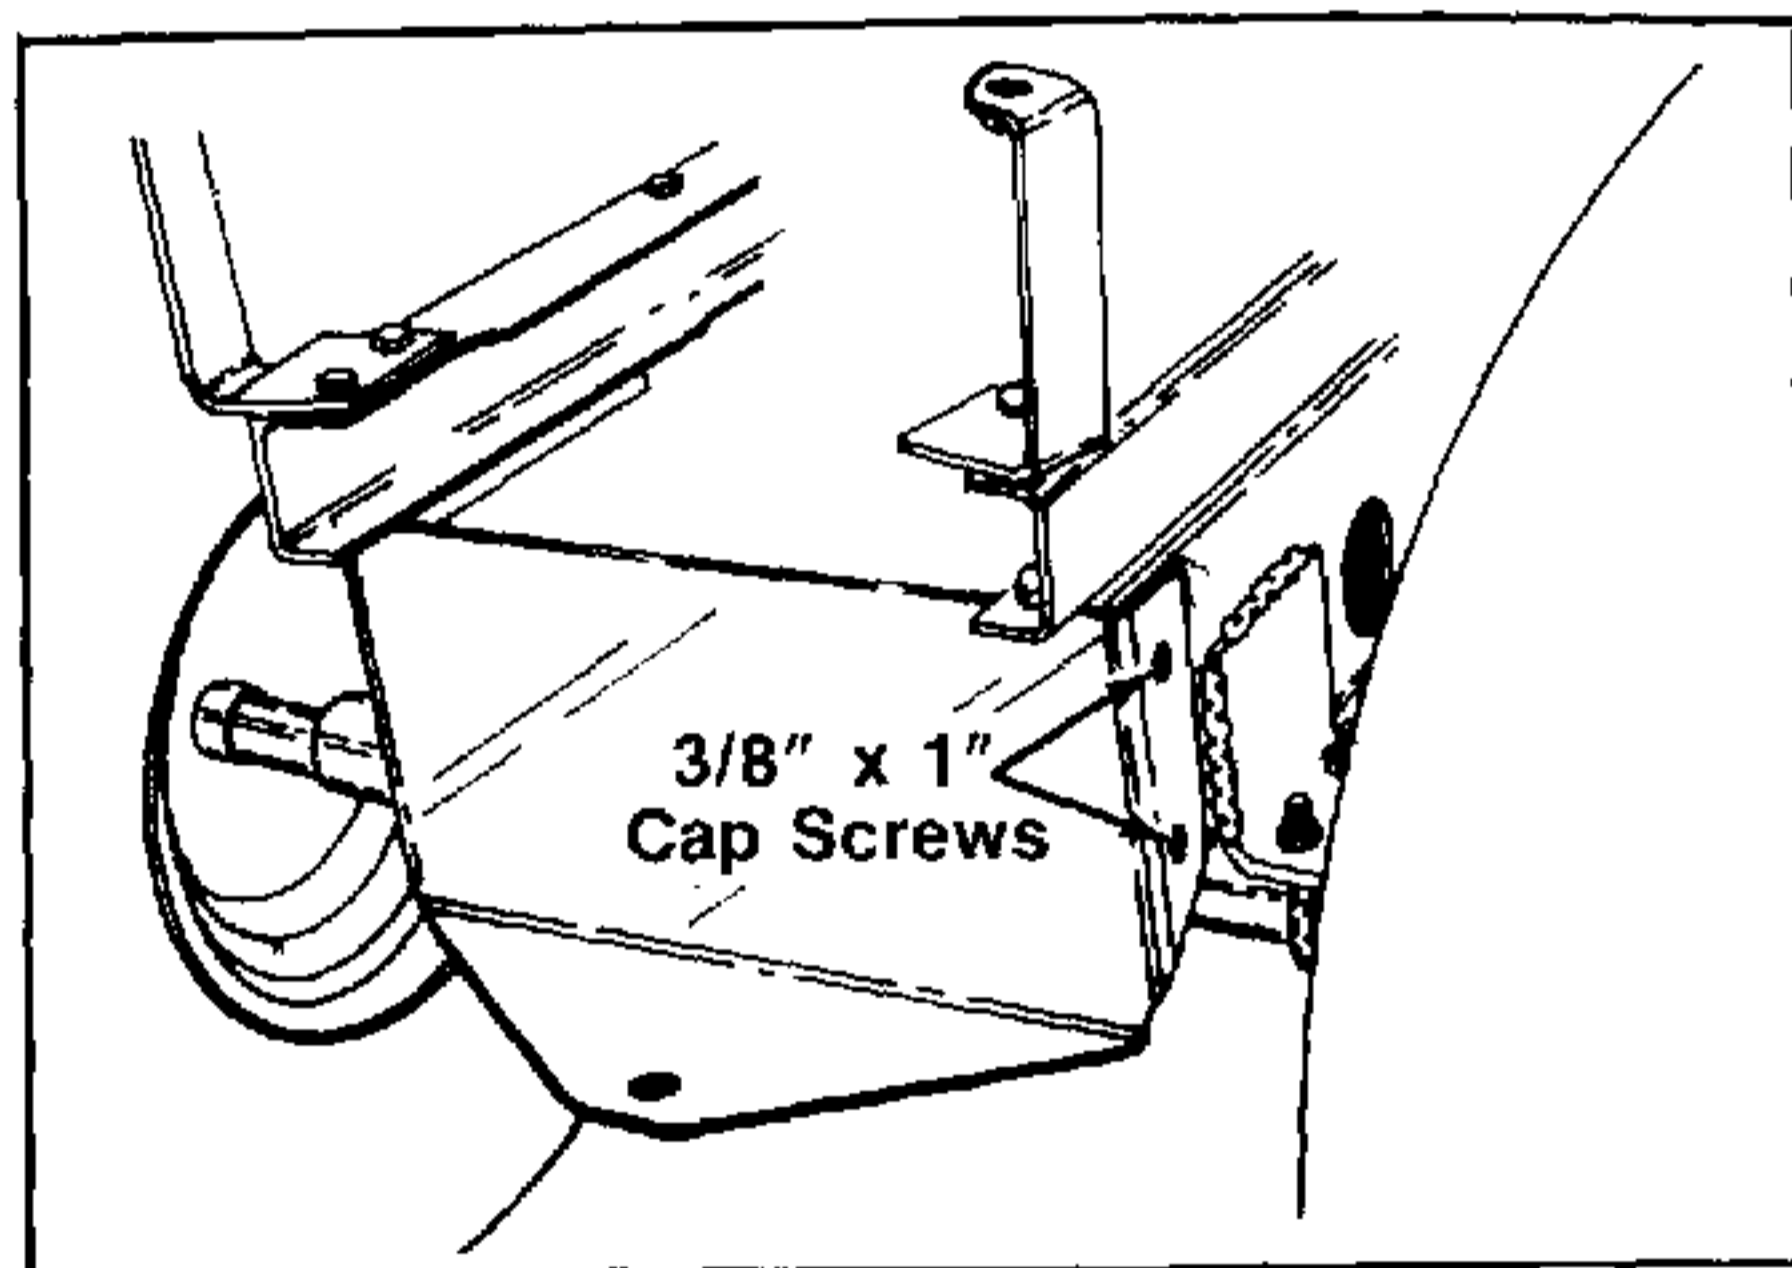

FIGURE 8.
8. Remove the rear hitch plate by removing the four 3/8" x 1" cap screws and lock washers. See figure 8.